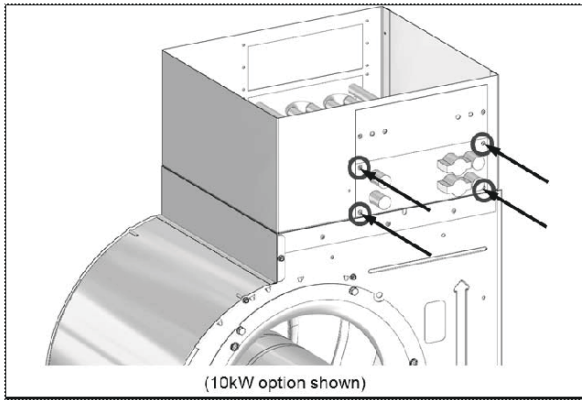

Fig. 8 – Secure Insert with Supplied Sheet Metal Screws ^{A210074}
- Secure each insert with four of the supplied sheet metal screws (see Fig. 8)